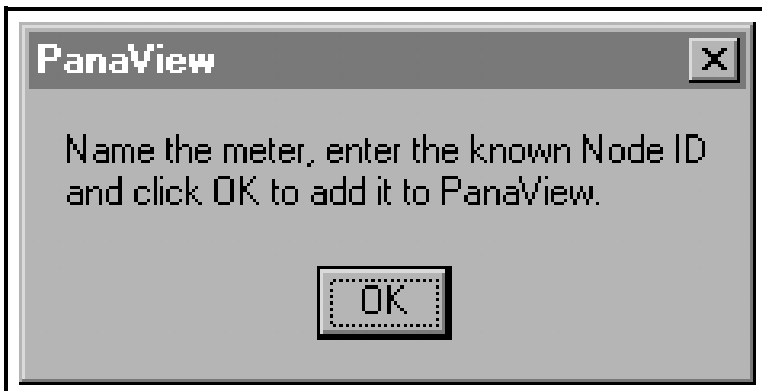

Figure 4-12: Confirmation Dialog Box
- At the dialog box shown in Figure 4-12 on page 4-15, click on the [OK] option button to add the meter and configure it. The dialog box shown in Figure 4-13 below appears.